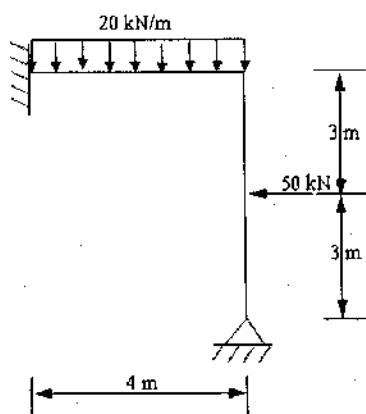

Figure 4
- Q. 3. Analyse the structure as shown in figure 4 using **Direct Stiffness method** and hence draw the SFD and BMD.